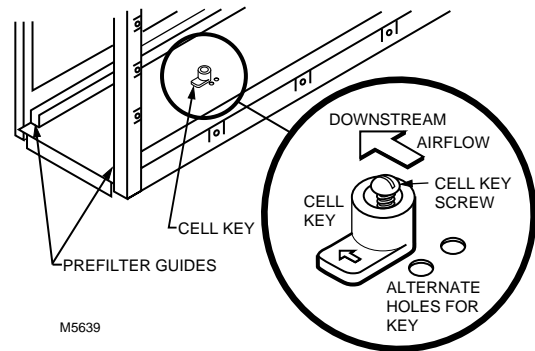

Fig. 16. Position of cell key determines orientation of cell (arrow on key must point downstream).
2. Remove the screw holding the cell key in place. See Fig. 16.